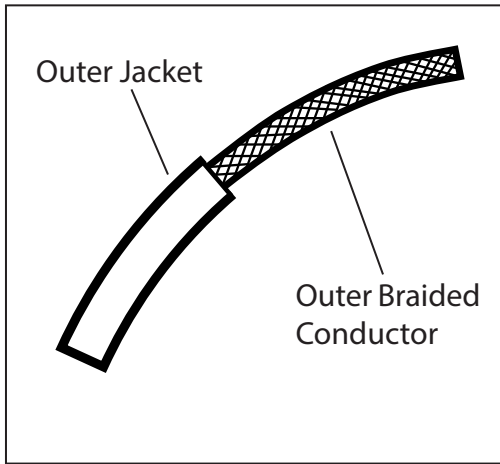
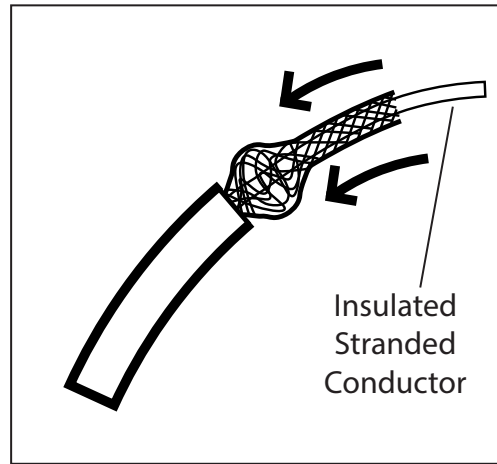

Fig. 1
Fig. 2
1. Shut off power to the outlet box (A).
3. Determine the height at which each pendant is to be hung. Use the screwdriver (B) to loosen the set screw (C). Feed the power cords (D) through the bushings (E) on the canopy (F). Adjust the cord (D) to the desired length. Tighten the set screw to set.
4. Connect the fixture wires to the lever nuts (G) by pulling up on the lever for an empty slot (Fig. 1), inserting the wire, and pushing the lever back down to lock. The inner stranded conductor (H) and the outer braided conductor (J) on each cord (D) must be connected to separate lever nuts, as shown (Fig. 2). Reserve extra cords (D) and lever nuts (G) in the canopy (F). If shortening of the cords is necessary refer to Appendix A.
5. Attach cross bar (L) to the outlet box (A), secure with outlet box screws (M).
- a. Connect the LED driver's (K) live wire (black) to the live outlet box wire.
7. Attach canopy (F) to nipple (N), secure with washer and finial (P).
1. Make a 1" slice along the length of the cord's outer jacket (Fig. 1). **CAUTION: Do not cut through the outer braided conductor.**
2. Carefully strip the outer jacket of the cord and keep the outer braided conductors intact (Fig. 1).
3. Slide the outer braided conductor back to create a bulge and reveal the inner stranded conductor (Fig. 2).